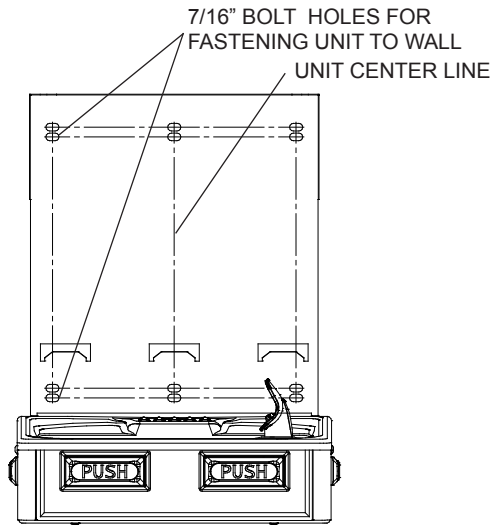

Fig. 6
- 2) **Remove wall mounting plate from Bottle Filler.** Place wall plate against wall on top of basin. Center the wall plate side to side with the basin. Mark the six (6) mounting holes with a pencil (See Fig. 6).
- 4) **Install wall mounting plate to wall** using six (6) 7/16" obround mounting holes (mounting bolts not included) (See Fig. 6). Use appropriate fasteners for your wall type.